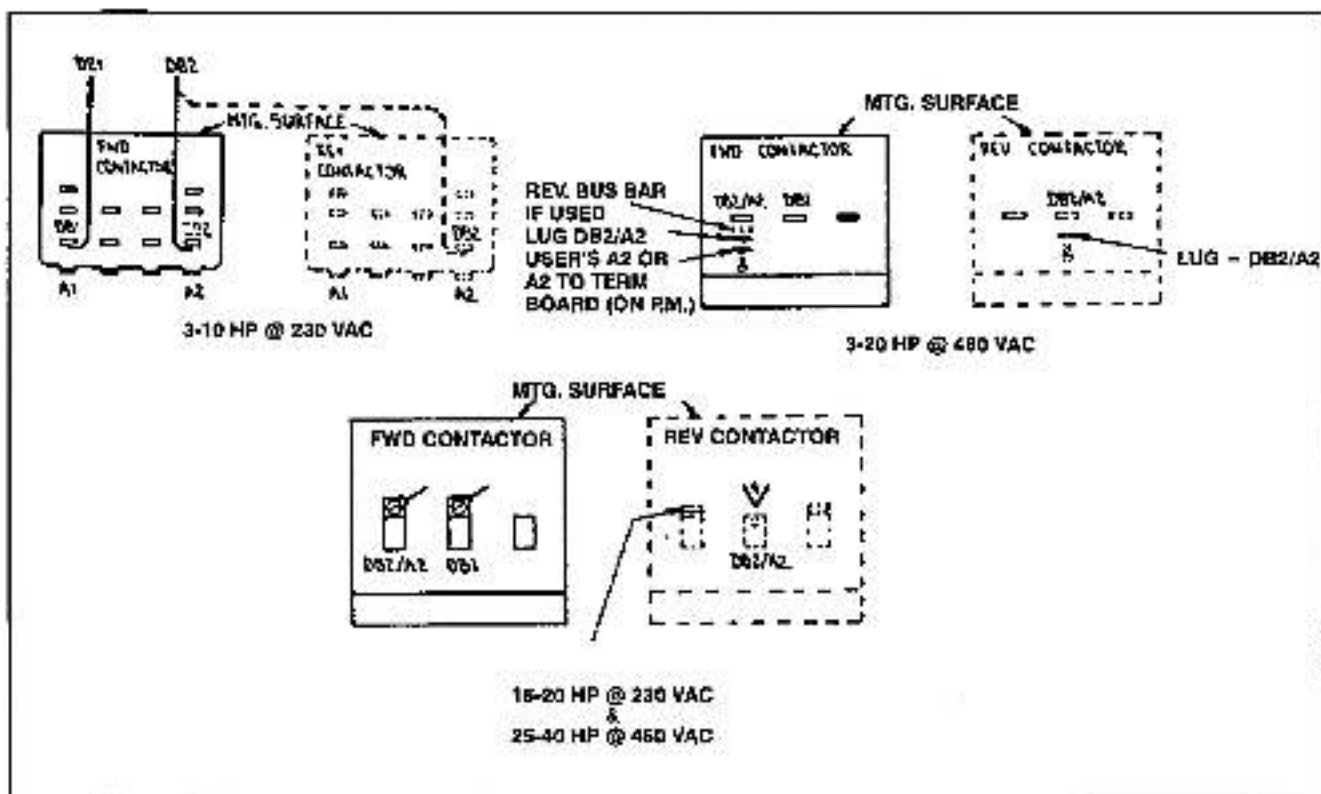

Figure 5 - Contactor Configurations For Dynamic Braking Kit Wiring
4. Connect lead DB1 to forward contactor and lead DB2/A2 to other side of forward contactor. For reversing applications connect DB2/A2 to reversing contactor. (Refer to Figure 5).